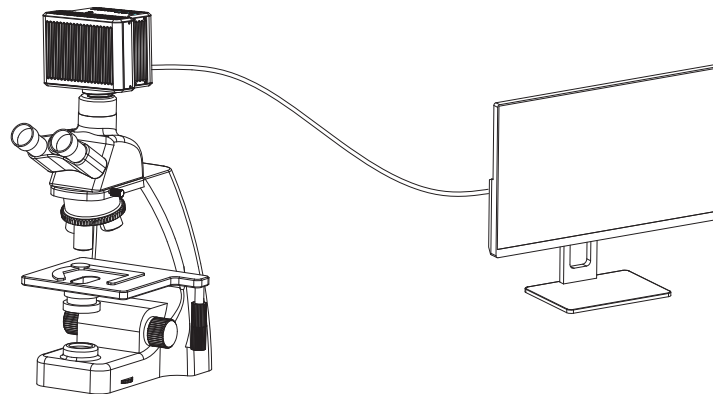

Figure 5
(1) After mounting the tutor station interactive workstation on the microscope, connect the camera's PC LAN port to the Windows computer using a network cable, as shown in Figure 5 below: